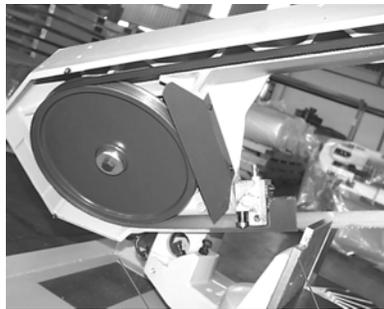

Fig.8 A B
1. Raise the saw frame about 6" and close the feed on/off knob by turning it clockwise as far as it will go (fig 8).